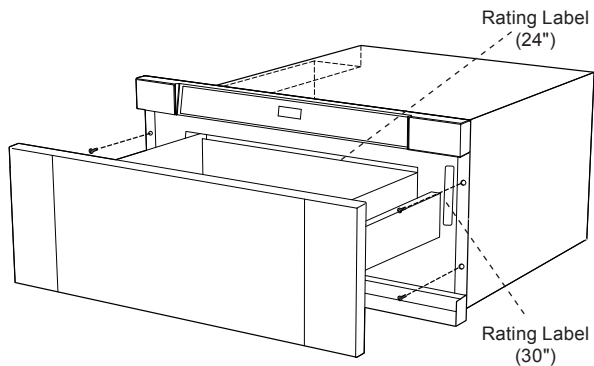

Figure 9A
4. Open the drawer. Using the 4 holes on the drawer as a template, predrill the cabinet using a $\frac{1}{16}$ " bit. See **Figure 9A**.
The name plate, including model and serial number, is located on the faceplate behind the Microwave Drawer front. See **Figure 9A**.
The name plate includes model and serial number. Open the Microwave Drawer fully. The label is slightly beyond the back wall of the microwave cavity facing up from the flat surface. is located on the faceplate behind the Microwave Drawer front. See **Figure 9A**.